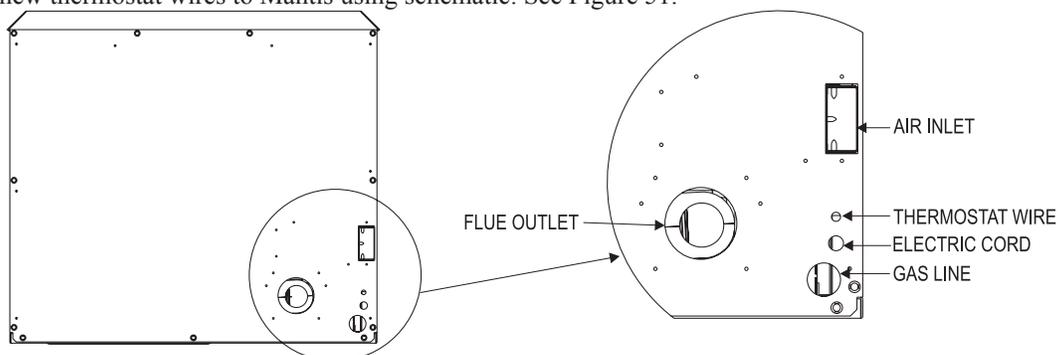

Figure 50
Determine mounting location of thermostat. Using standard 18 AWG wire, run four (4) strands of wire into rear of Mantis (See Figure 50) to junction block. Cut wire to correct length. Remove blue jumper wire from junction block and save for future use. Connect four (4) new thermostat wires to Mantis using schematic. See Figure 51.